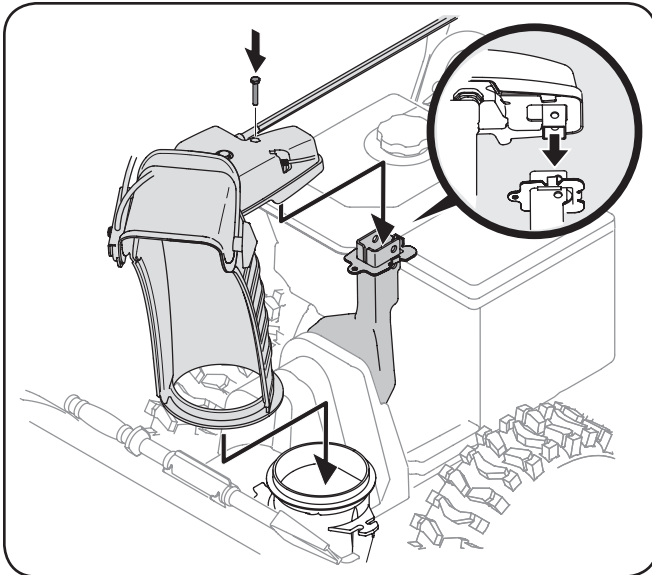

Figure 3-5
3. Place chute onto chute base and ensure hex rod is positioned under the handle panel. Install hex bolt previously removed but do not secure with wing nut at this time. See Fig. 3-5.